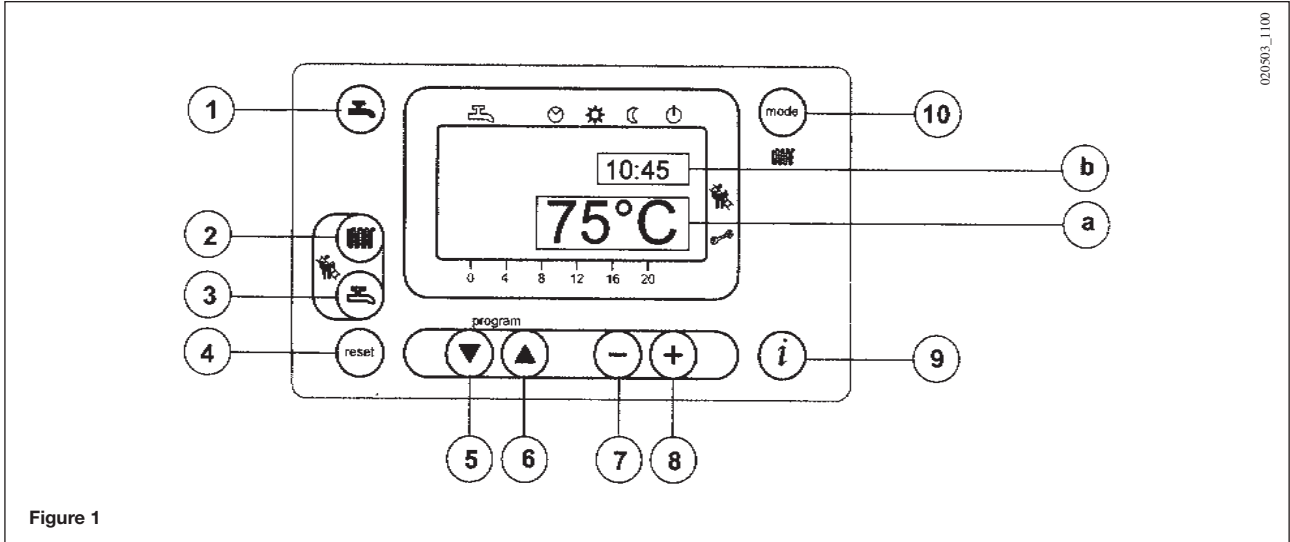

Figure 1
- Press the  key (2-figure 1) to set the central heating water temperature;
- press either of the   keys (1 or 10 - figure 1) to save and return to the main menu.
**N.b** – With the outdoor sensor connected, the  key (2 - figure 1) can be used to shift the central heating curve. Press the   keys to decrease or increase the room temperature in the premises to be heated.
- Press the  key (3-figure 1) to set the maximum domestic hot water temperature;